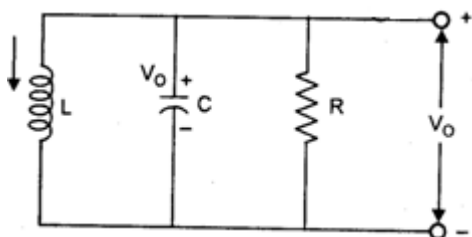

Fig. A. 1 Ringing circuit with initial current 'I' in inductor and initial voltage  $V_0$  across capacitor.
**Ans.** Ringing circuits are those which generate a sequence of pulses spaced regularly in time these circuits have undamped oscillations depending on the number of ringing duty cycles required. Consider the ringing circuit of Fig. A.1. in which there is an initial voltage  $V_0$  across the capacitor 'C' as well as an initial inductor current I. It is now convenient to introduce a parameter  $\Delta$ , defined as the ratio of coil current to resistor current at  $t = 0$ .
If  $V_0$  and  $I$  have the relative polarities indicated in Fig. A. 1 then  $\Delta$  is positive. If the relative polarities differ from those indicated, the ' $\Delta$ ' is negative. For a negative  $\Delta$ , the output may rise first (see the curve for ' $\Delta = -2.0$ ') ; before falling to zero. The physical reason for this initial increase in output is that the inductor current (with the polarity opposite to that in Fig. A.1.) may charge the capacitor to a more positive voltage before 'C' discharges through the resistor.